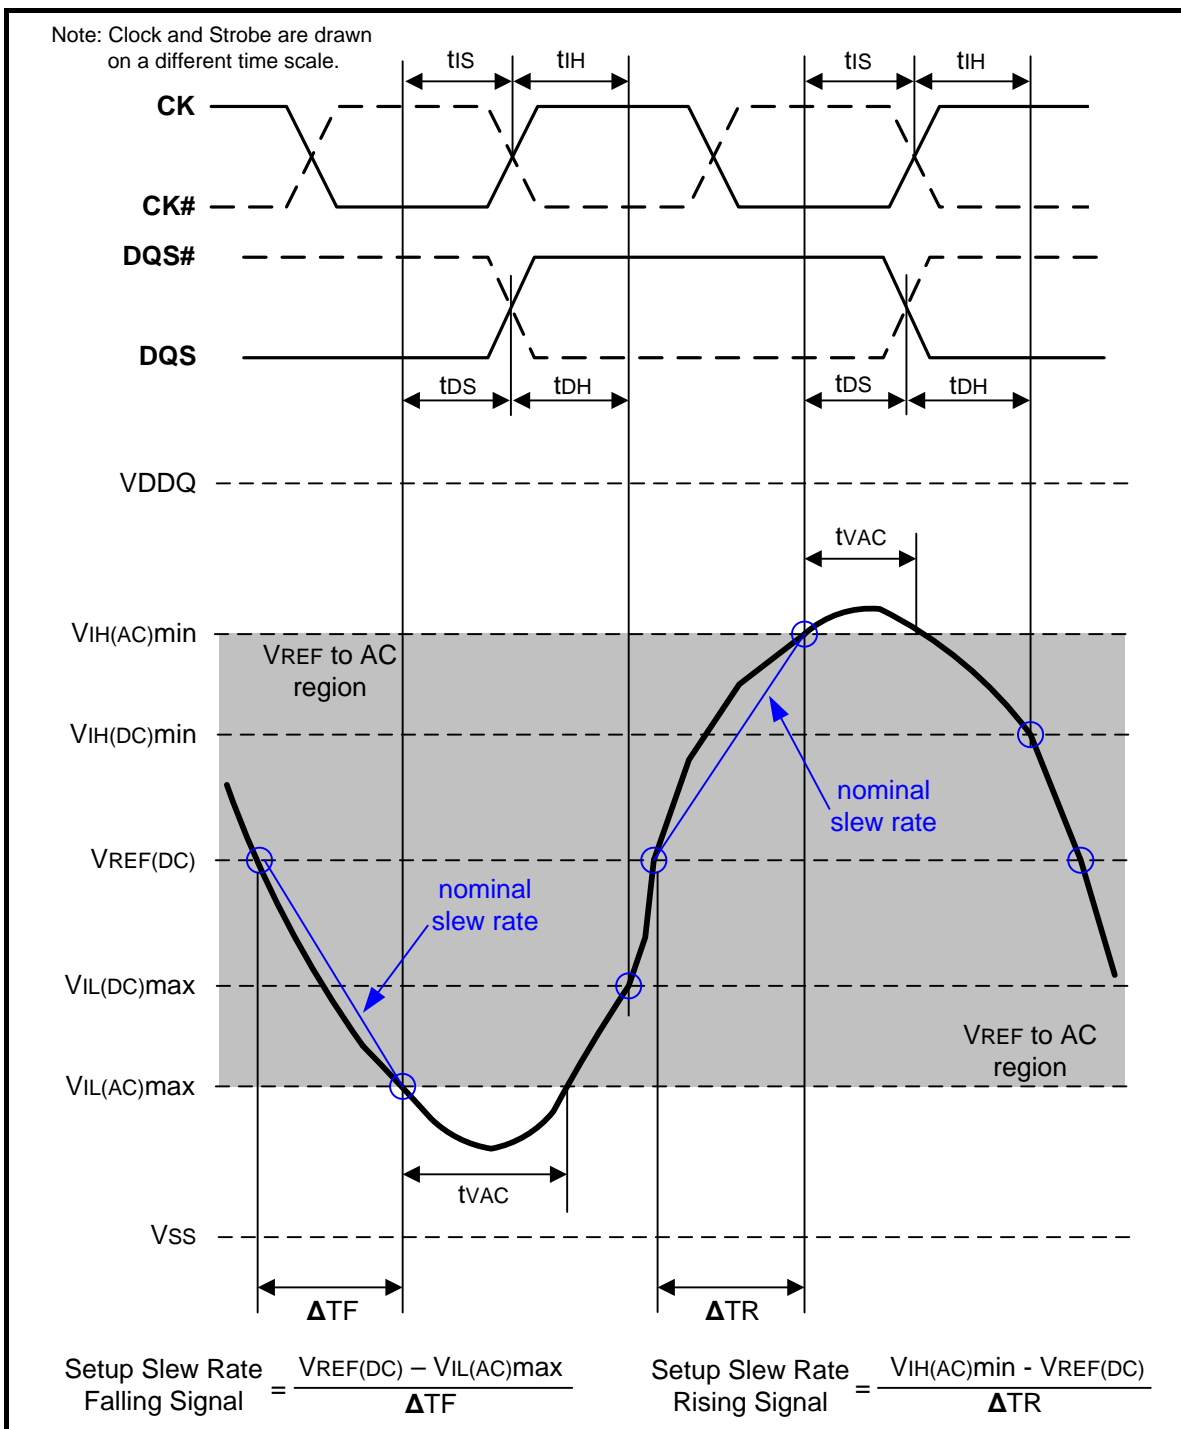
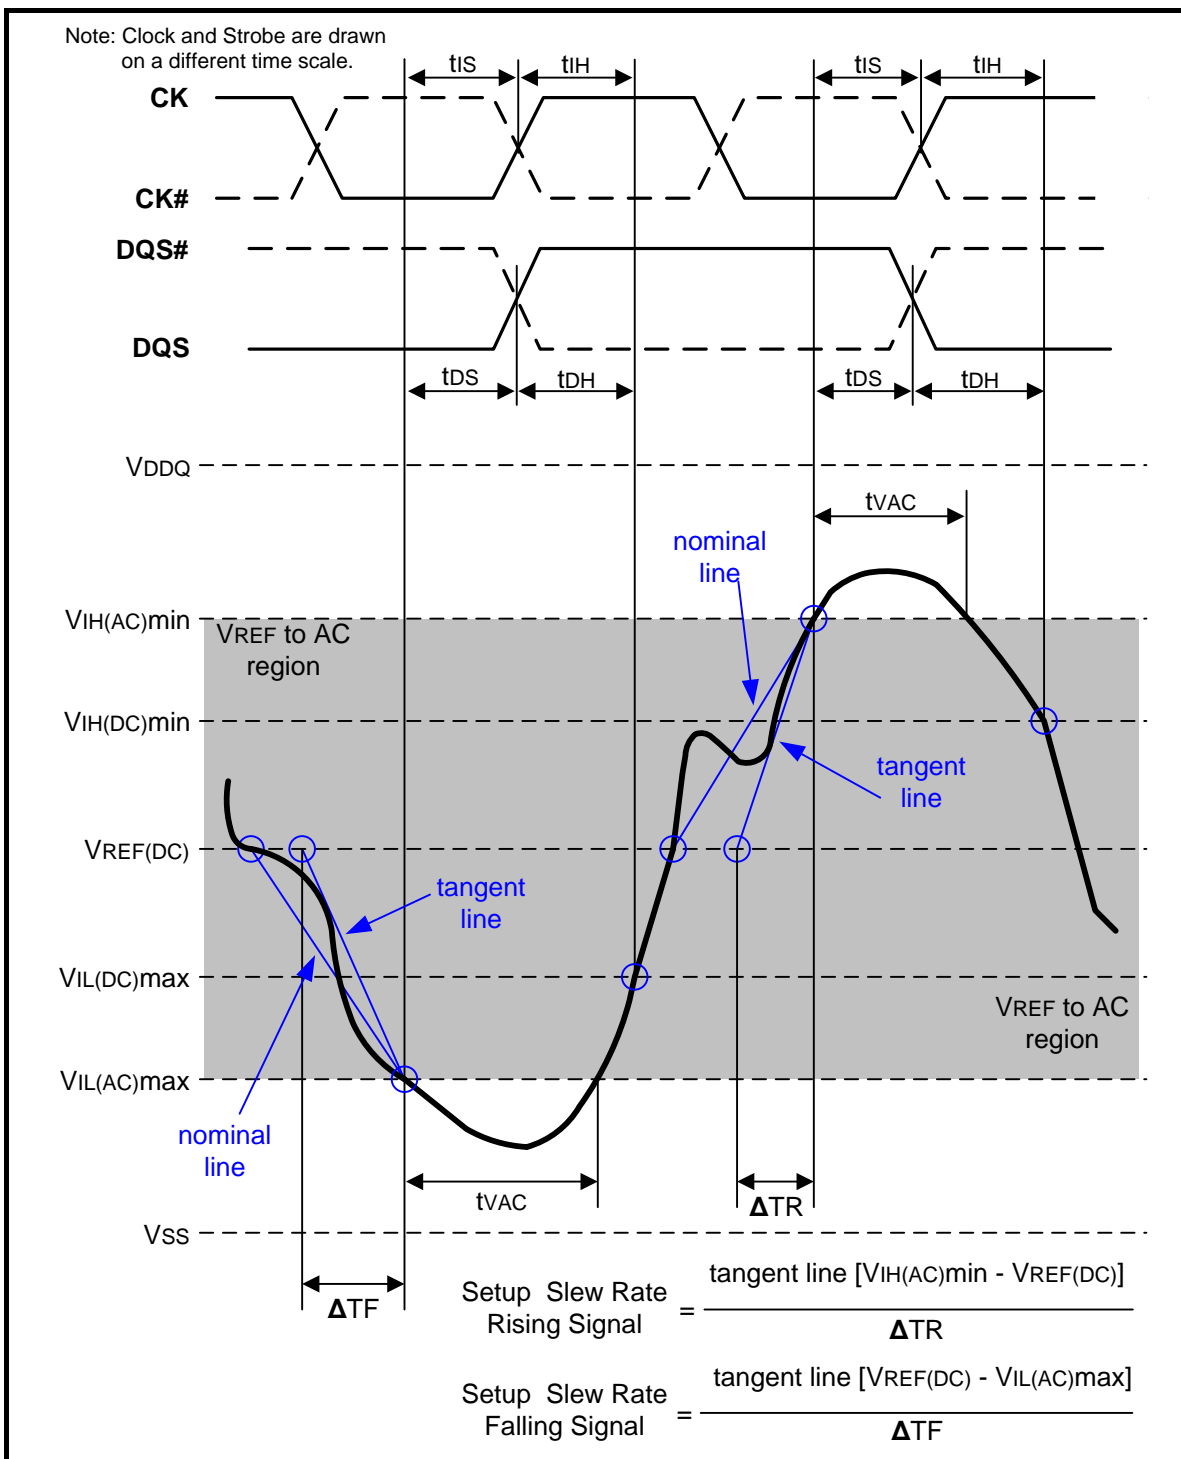

Figure 107 – Illustration of nominal slew rate and tvAC for setup time tDS (for DQ with respect to strobe) and tIS (for ADD/CMD with respect to clock)
Figure 109 – Illustration of tangent line for setup time t_{DS} (for DQ with respect to strobe) and t_{IS} (for ADD/CMD with respect to clock)
Setup (t_{IS}) nominal slew rate for a rising signal is defined as the slew rate between the last crossing of $V_{REF}(\text{DC})$ and the first crossing of $V_{IH}(\text{AC})_{\text{min}}$. Setup (t_{IS}) nominal slew rate for a falling signal is defined as the slew rate between the last crossing of $V_{REF}(\text{DC})$ and the first crossing of $V_{IL}(\text{AC})_{\text{max}}$. If the actual signal is always earlier than the nominal slew rate line between shaded 'VREF(DC) to AC region', use nominal slew rate for derating value (see Figure 107). If the actual signal is later than the nominal slew rate line anywhere between shaded 'VREF(DC) to AC region', the slew rate of a tangent line to the actual signal from the AC level to $V_{REF}(\text{DC})$ level is used for derating value (see Figure 109).
Setup (tDS) nominal slew rate for a rising signal is defined as the slew rate between the last crossing of VREF(DC) and the first crossing of VIH(AC)min. Setup (tDS) nominal slew rate for a falling signal is defined as the slew rate between the last crossing of VREF(DC) and the first crossing of VIL(AC)max (see Figure 107). If the actual signal is always earlier than the nominal slew rate line between shaded 'VREF(DC) to AC region', use nominal slew rate for derating value. If the actual signal is later than the nominal slew rate line anywhere between shaded 'VREF(DC) to AC region', the slew rate of a tangent line to the actual signal from the AC level to VREF(DC) level is used for derating value (see Figure 109).